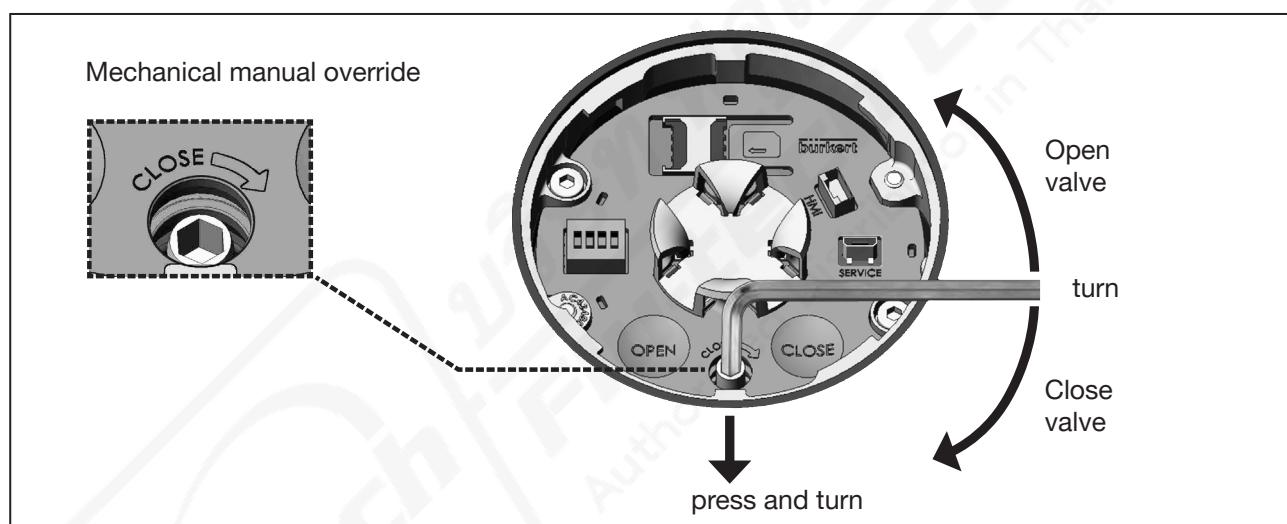

Fig. 68: Mechanical manual override
- “Fig. 68” ⚠ Maximum torque 2 Nm.